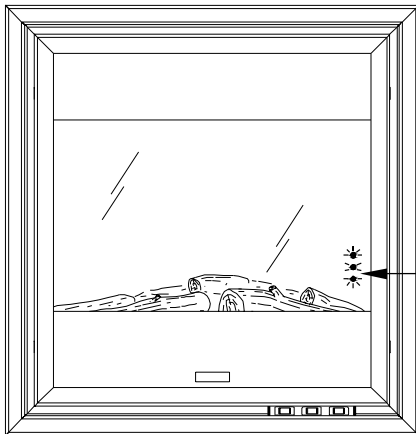

Fig. 5
**Note:** When either the remote control or the manual controls are used the neon's will come on for 3 seconds indicating the appropriate setting (see Figure 5).